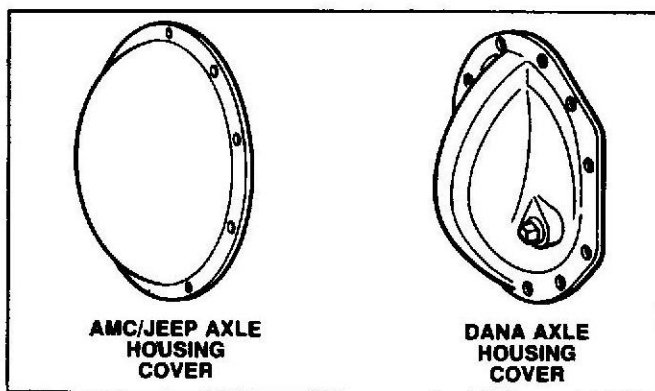

Fig. 1 Axle Housing Cover Identification
- (1) Raise and support vehicle.
- (2) Inspect rear axle housing cover to determine what type of axle is in vehicle.
- (a) If axle has round, dome shaped cover (Fig. 1), vehicle has AMC/Jeep axle and will require repair if campaign identification mark is not present. Place campaign-inspection identification paint mark on cover (Fig. 1) and proceed to repair procedure.
- (b) If axle has oval, irregular shaped cover (Fig. 1), vehicle has Dana axle and does not require any repairs.
- (3) Lower vehicle.